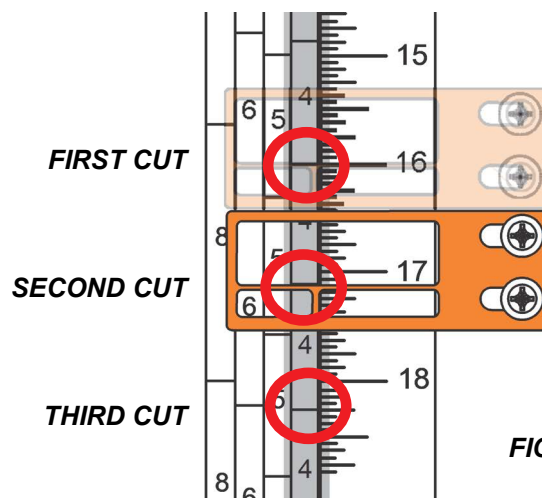

FIG. 5-7
2. Adjust the quarter scale so a 4/4 mark (highlighted gray in Fig.5-7) is aligned with the line on the indicator.